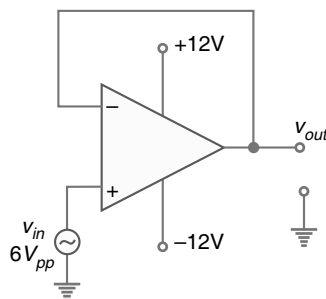

Fig. 23.62
**Example 23.37.** Fig. 23.62 shows the circuit of voltage follower. Find (i) the closed-loop voltage gain and (ii) maximum operating frequency. The slew rate is  $0.5 \text{ V}/\mu\text{s}$ .